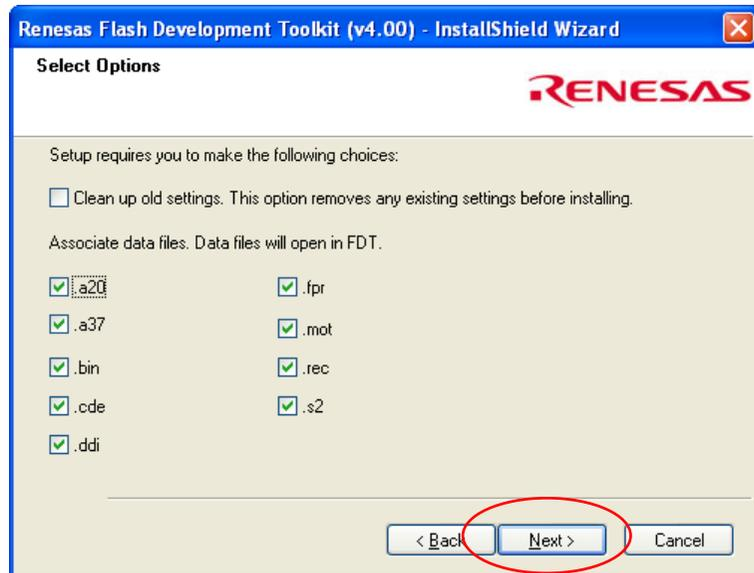

Figure 60
8. Select all options pictured in Figure 60. Then press next.